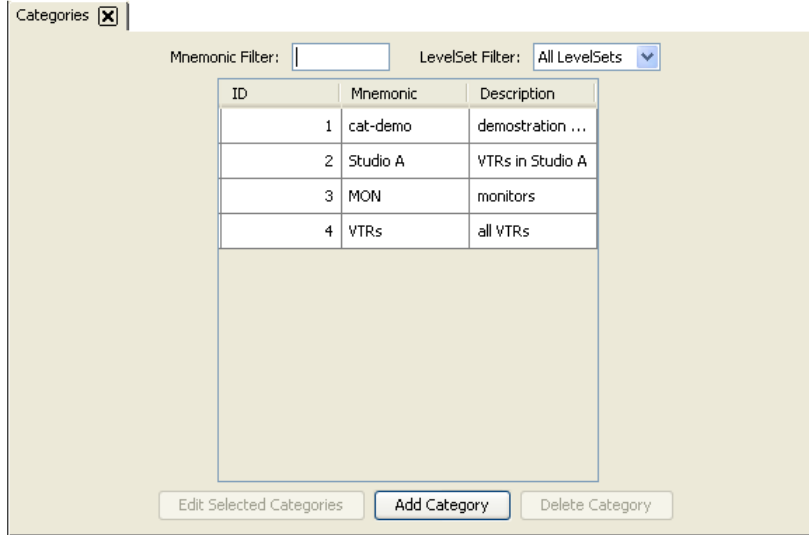

Figure 10-25. Categories Page
- 1 From the Navigation area, select the 'Configuration' pane and then 'Categories'. The 'Categories' page displays, as shown in Figure 10-25.